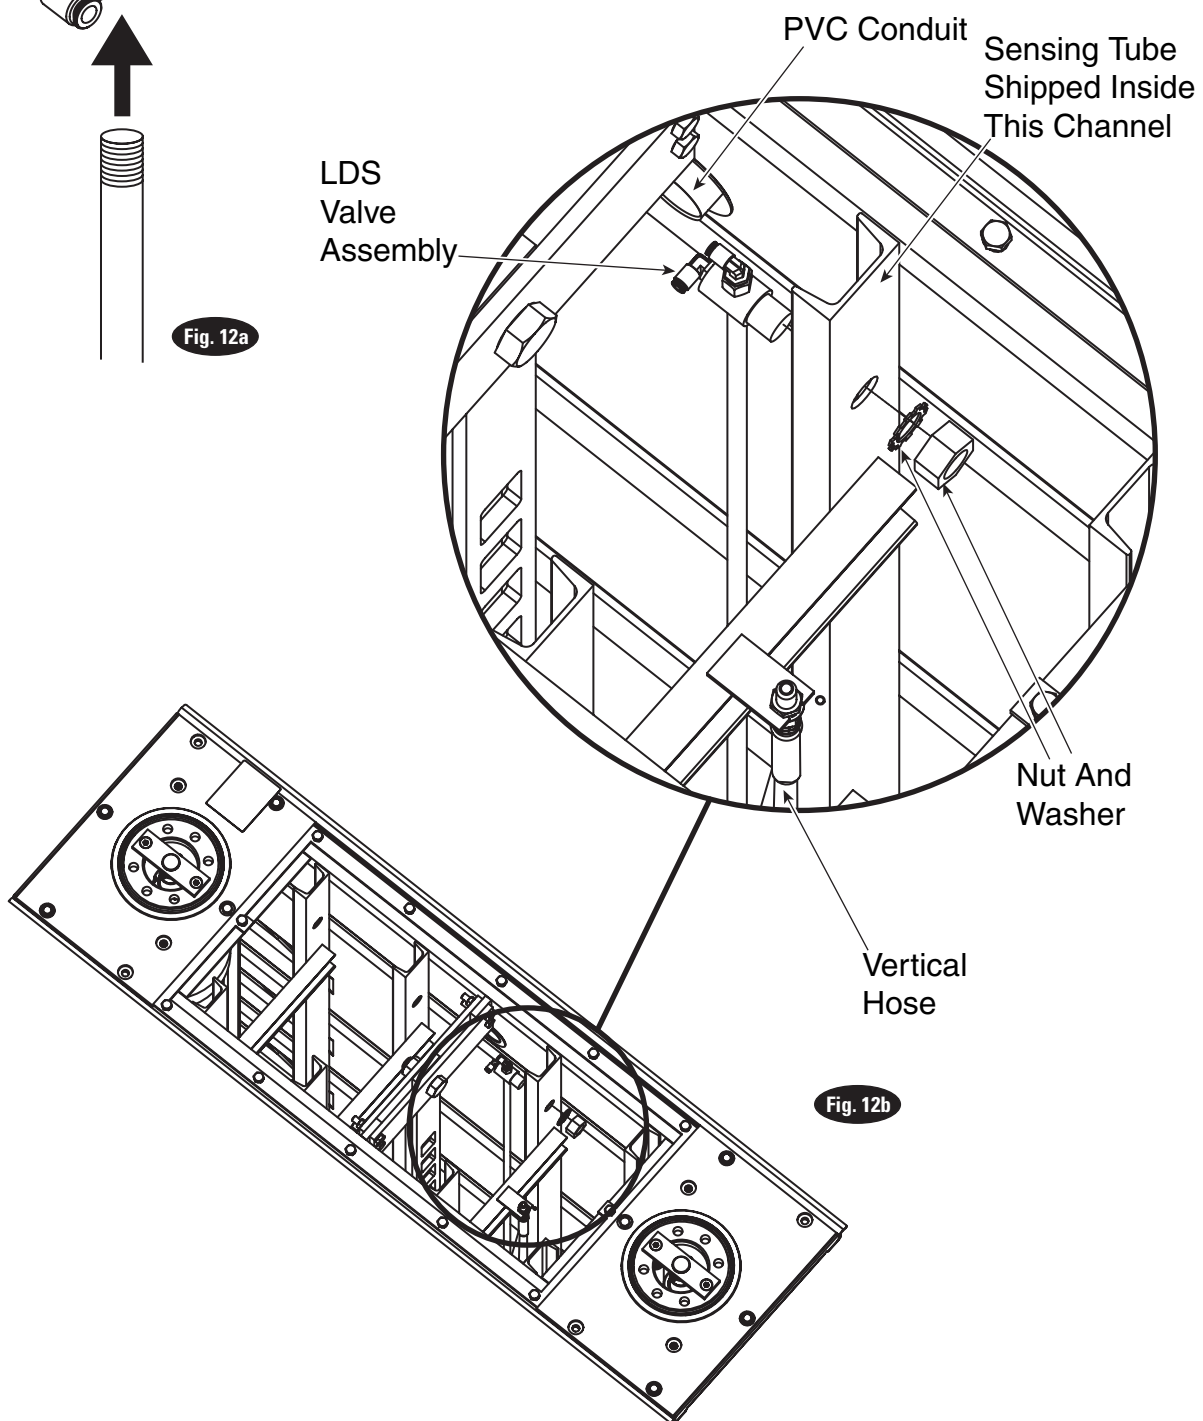

Fig. 12b
3. Install LDS system onto the channel that the sensing tube was shipped in, making sure to place sensing tube inside wire ties, Fig. 12b.